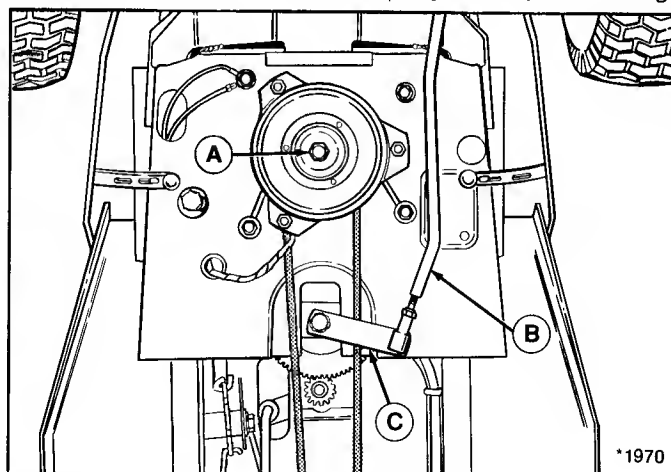

Figure 23.
5. To remove belt from engine pulley, the electric clutch must be removed and the belt slid over the top of the pulley. Remove the capscrow (A, figure 23), washer and lockwasher securing the electric clutch to the engine crankshaft. Slide belt over the top of the engine pulley.